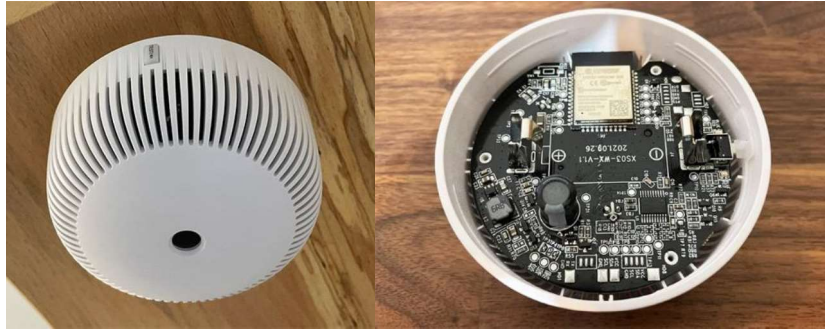

Figure 4: X-Sense XS03-WX WiFi Smoke Detector and its internal hardware shows an ESP32 module. Adopted from M Reviews [10].
Building safety has undergone a paradigm shift with the integration of IoT into smoke and fire detection systems, which offers a proactive and intelligent method of safeguarding people and property. It enables more effective and coordinated emergency responses and increases detection speed and accuracy. One example is X-sense CO and smoke detectors [9]. This type of alarm offers 2-in-1 protection by simultaneously detecting the presence of carbon monoxide (CO) and smoke in the air, as shown in **Figure 4**.